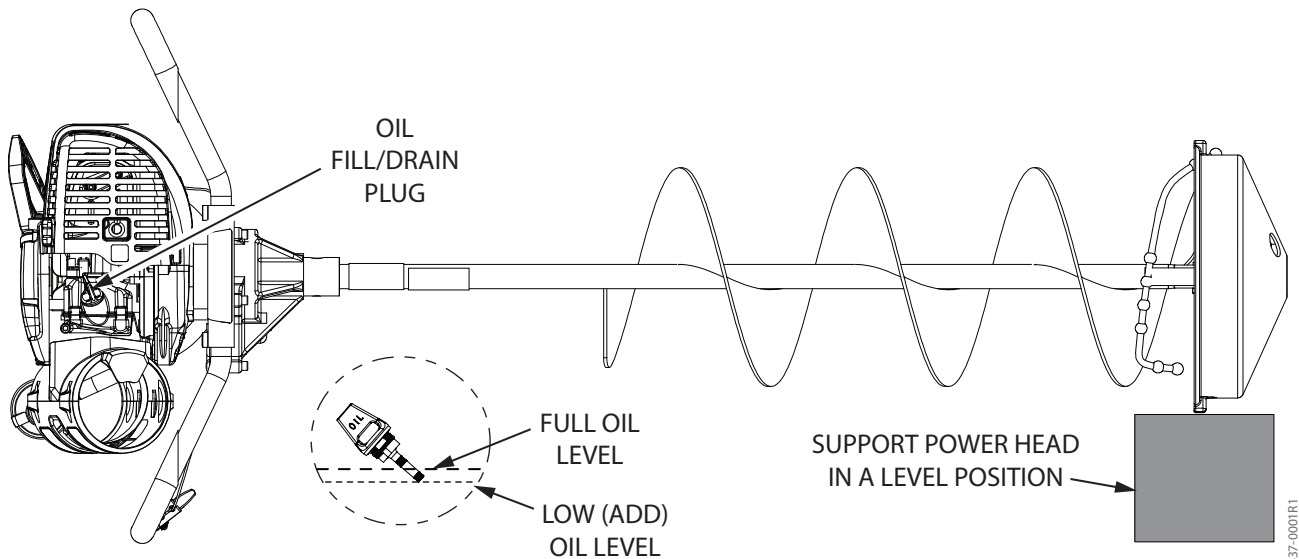

FIGURE 2
2. To add oil to engine, connect the auger to the power head. Put the power head in a horizontal position. **SEE FIGURE 2.**